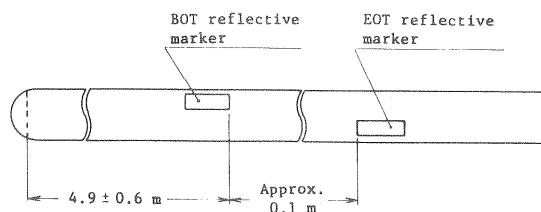

Figure 5.2 Beginning of tape and end of tape reflective markers
- (1) Obtain a magnetic tape and install two new reflective markers as shown in Figure 5.2.